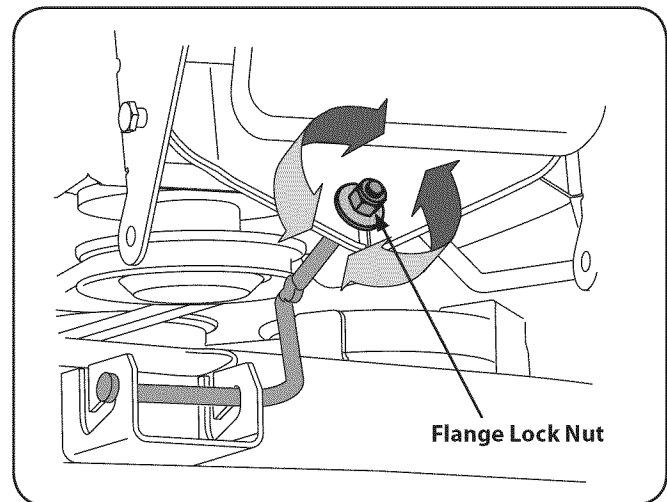

Figure 6-2
3. Locate the flange nut as seen in Fig. 6-2.